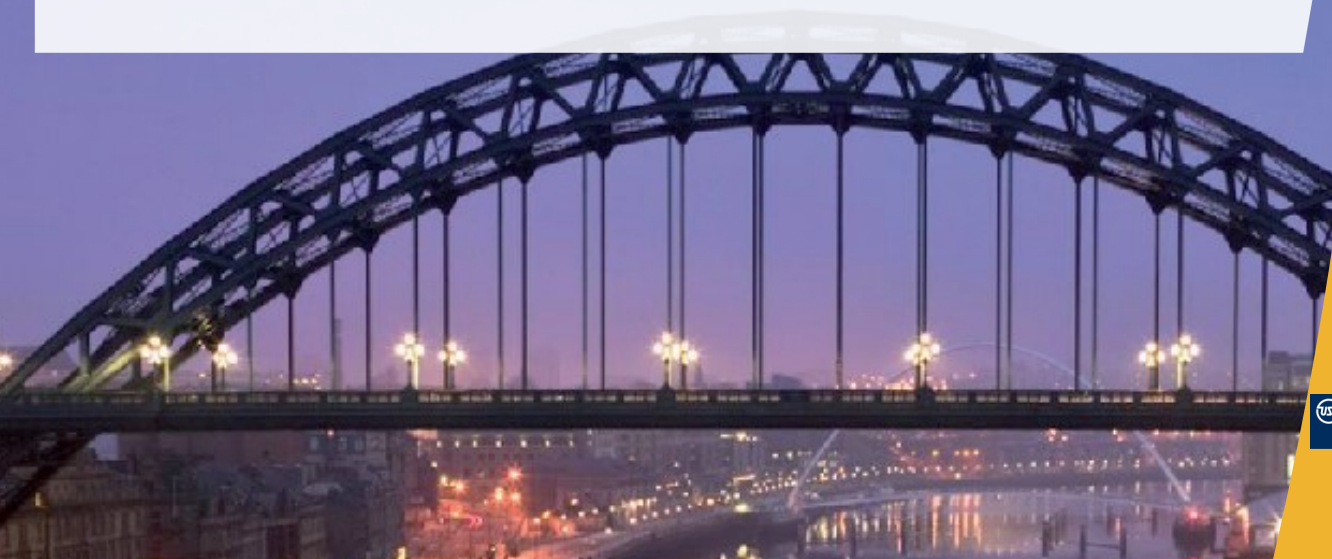

Figure 2 Plan on skewed joint
5. For clarification of curb upstand clearance (x) see figure 2 and 3.